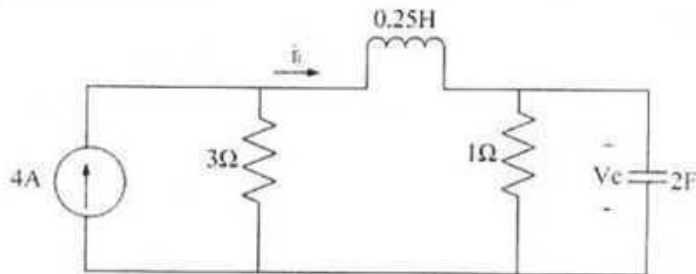

Figure 2(b)
- b. Determine  $V_C$  and  $i_L$  and the energy stored in the capacitor and inductor in the circuit of shown in Figure 2(b) under dc conditions. [12]